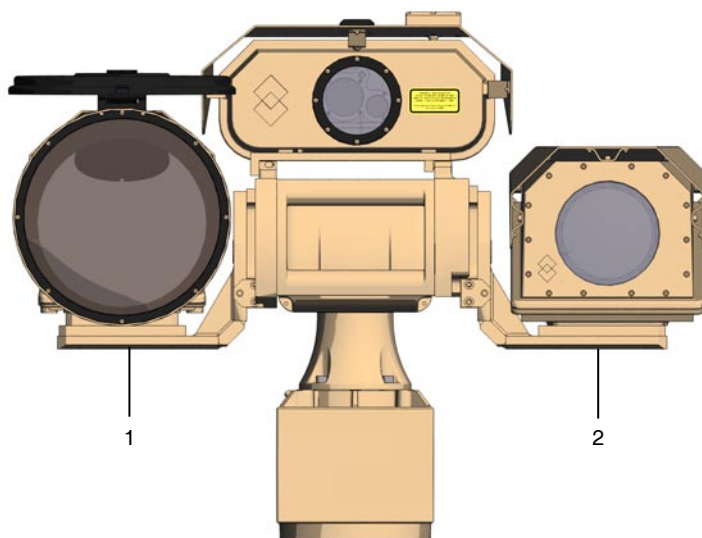

Figure 9.2 Mounting plate for the IR Camera (1) and the TV camera (2)
The Pan/Tilt unit is equipped with a left and a right mounting plate, where the IR and TV cameras are mounted. Seen from the front side, the IR Camera shall be mounted on the left mounting plate; Figure 9.2, item (1); and the TV Camera on the right mounting plate; Figure 9.2, item (2).